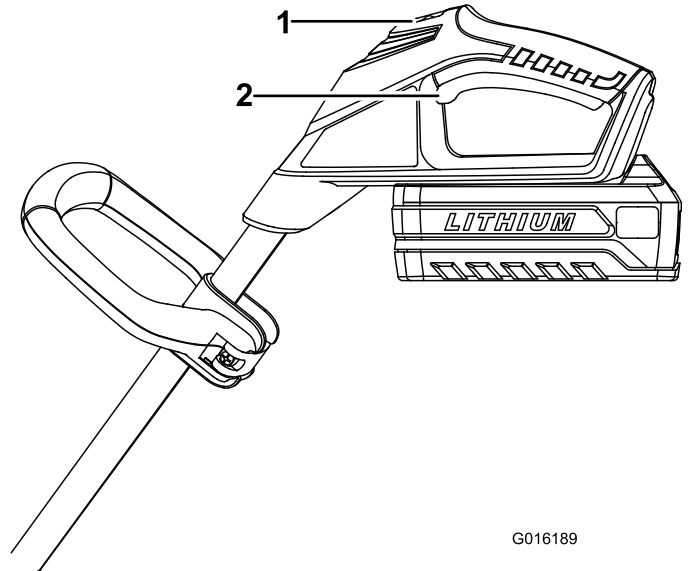

Figure 6
- To start the trimmer, slide the lock switch back to the On position, then squeeze the trigger (Figure 6).